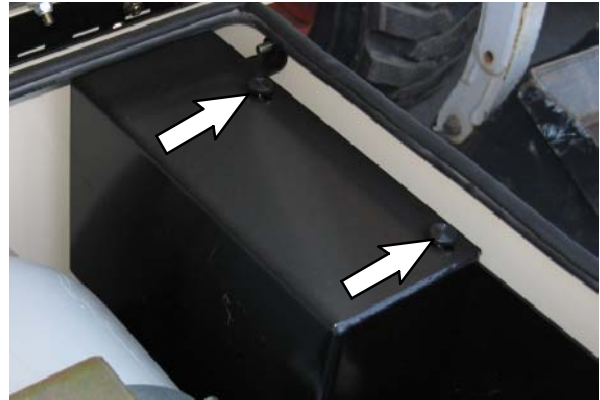

FIG. 3
2. Remove the cover from the FaST assembly. Set the cover and hardware aside. Refer to Fig. 3.